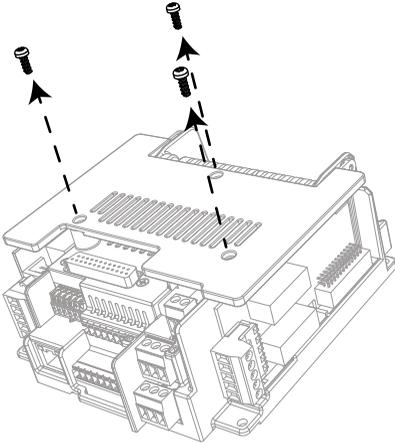

Fig. 33 Remove the three screws on the control box
The AC drive can be connected to fieldbus either through RS485 or Ethernet. The connection for RS485 is on the standard I/O terminals (A and B) and the connection for Ethernet is left to the control terminals. See fig. 33.
2. Then connect the cable to its appropriate terminals on Grundfos RSI AC drive standard terminal block, terminals *A* and *B* (*A* = negative, *B* = positive). See fig. 33.